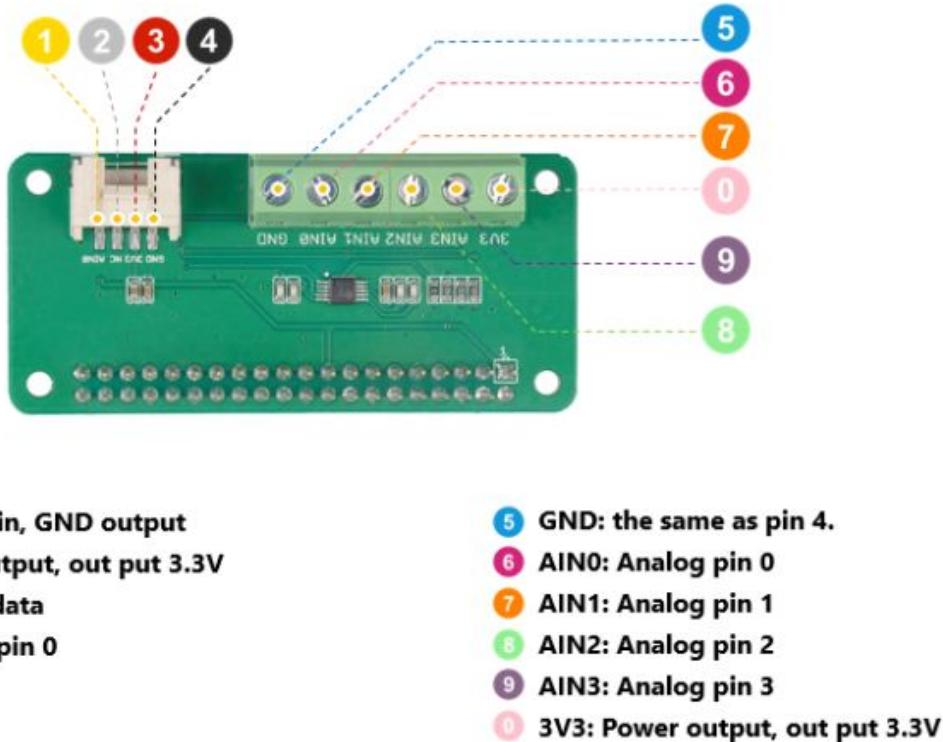

Figure 10.2 Pinout Diagram for the ADC Screw Terminal HAT.
10.2a) With the ports on the pressure transducer facing upwards, the pins on the LEFT side should be connected to the screw terminals as follows, from top to bottom: port 5 (GND), port 6 (AIN0), port 0 (3V3), port 7 (AIN1). Refer to Figure 10.2 for how the ADC screw terminals are numbered.